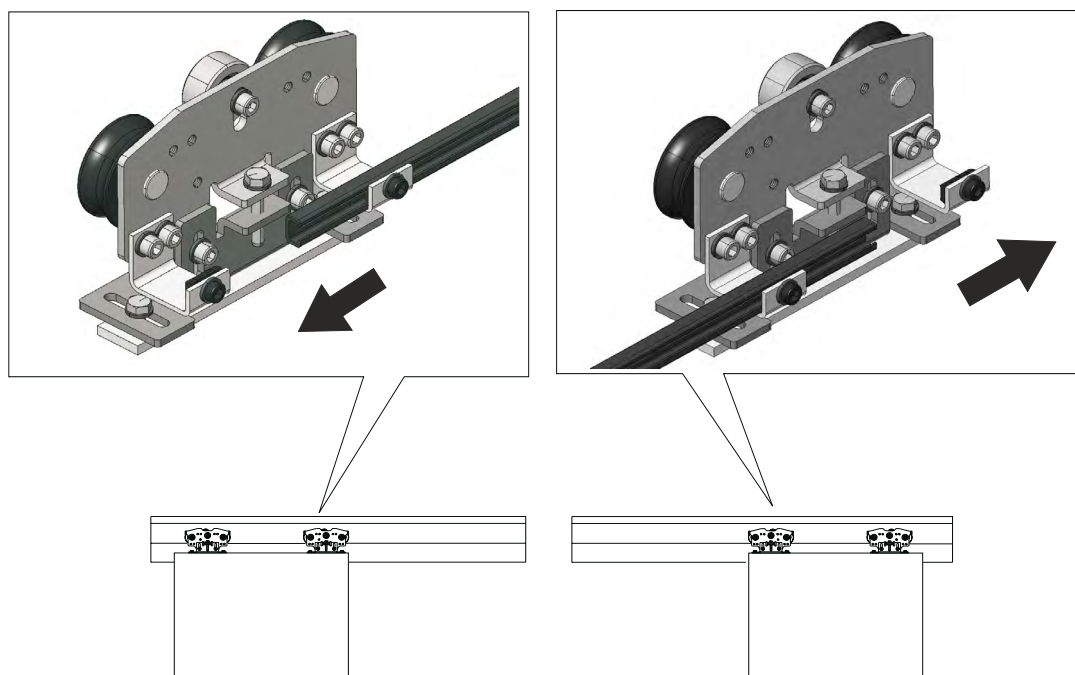

fig. 32
- Take the leaf to its opening position (fig. 32).
- Fit two plates with threaded hole inside the drive rod (fig. 32).